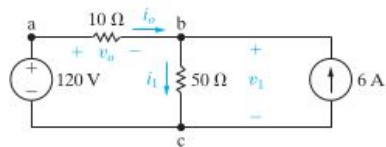

Figure 2.19 ▲ The circuit shown in Fig. 2.18, with the unknowns i_1 , v_o , and v_1 defined.
- a) We begin by redrawing the circuit and assigning an unknown current to the 50 Ω resistor and unknown voltages across the 10 Ω and 50 Ω resistors. Figure 2.19 shows the circuit. The nodes are labeled a, b, and c to aid the discussion.